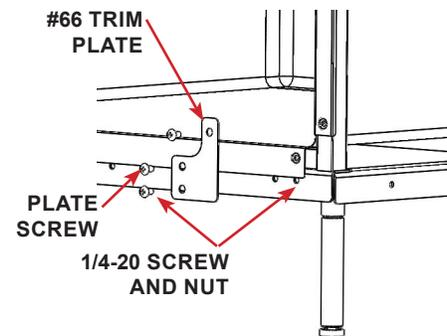

FIGURE 2.31 - Trim Plate #66
- STEP 23:** Remove the bottom right trim plate screws (2 each) from the last cage in the row. See FIGURE 2.31
- STEP 24:** Install, but do NOT fully tighten screws, trim plate (#66) using the screws removed in the previous step. The bottom hole requires 1/4-20 screw and nut to secure the cage to the platform frame. See FIGURE 2.31